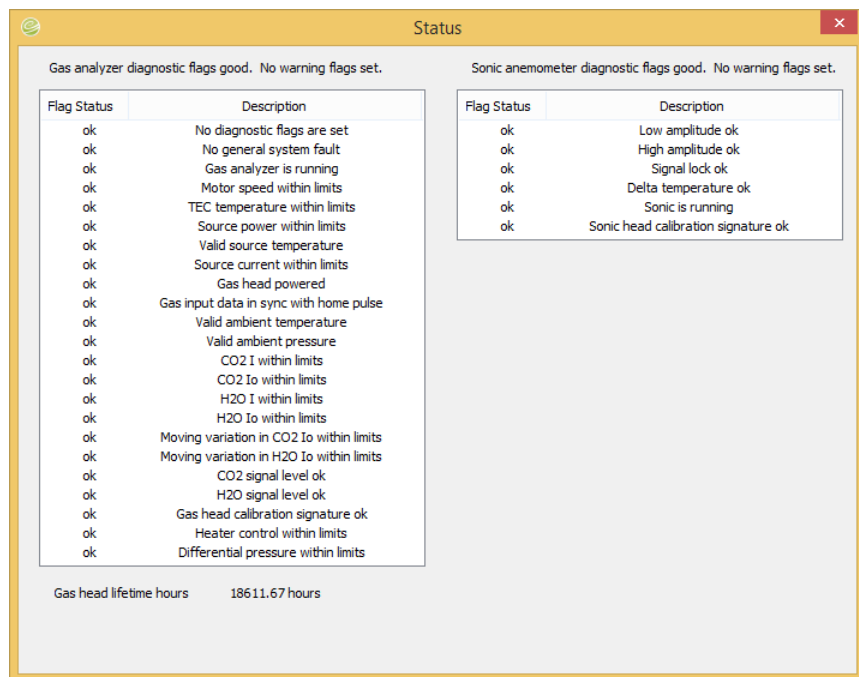

FIGURE 7-4. ECMon Status window
- Troubleshooting and monitoring diagnostics using the Status window (see FIGURE 7-4).